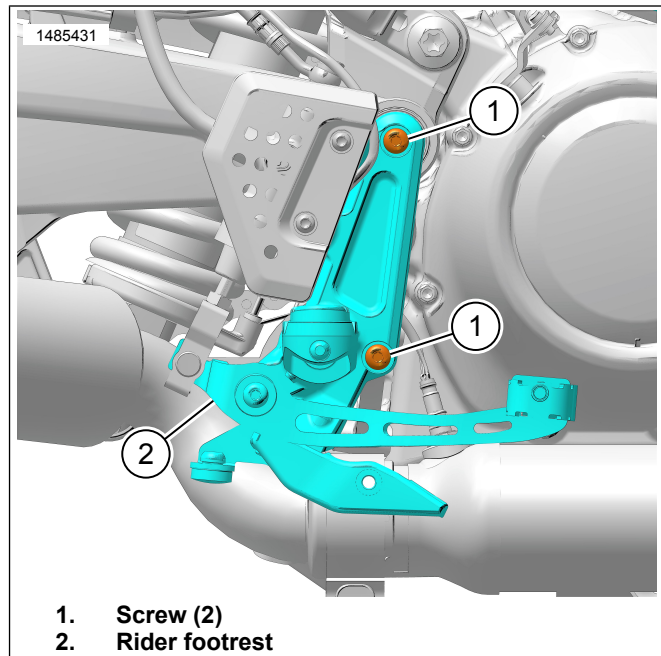

Figure 2. Rider Footrest
2. Figure 2 Remove screws (1).
- a. Secure rider footrest (2) assembly aside.
1. Figure 2 Install rider footrest (2).
2. Clean threads of screws (1) and holes in frame.
3. Apply threadlocker to screws (1).